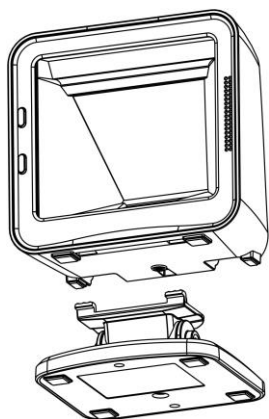

Figure 5-1
1. As shown in Figure 5-1, plug in two connection-arms to the two associated notches on the bottom of the image platform.